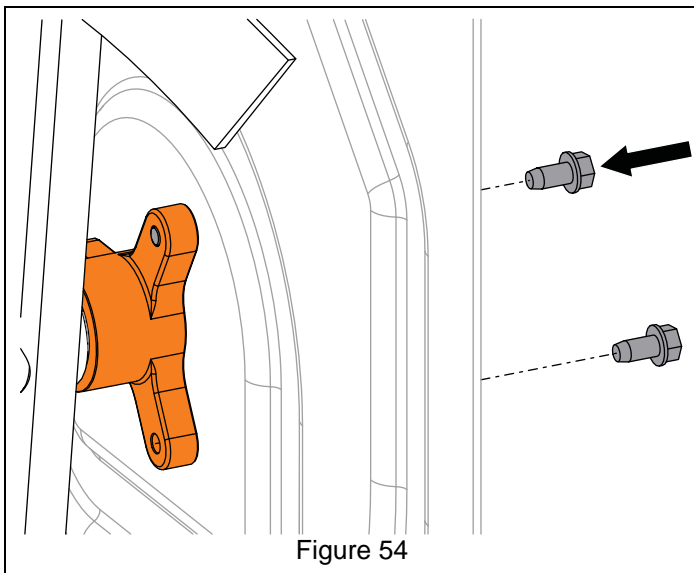

Figure 54
7. Secure support bushings to auger housing with six tapping screws. See Figure 54.